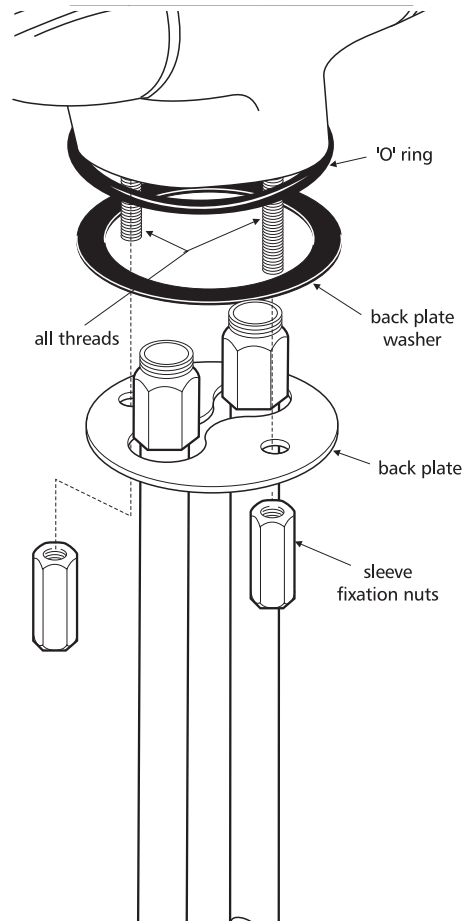

Figure 5
3. Insert the fitting into the hole and connect as in Figure 5.